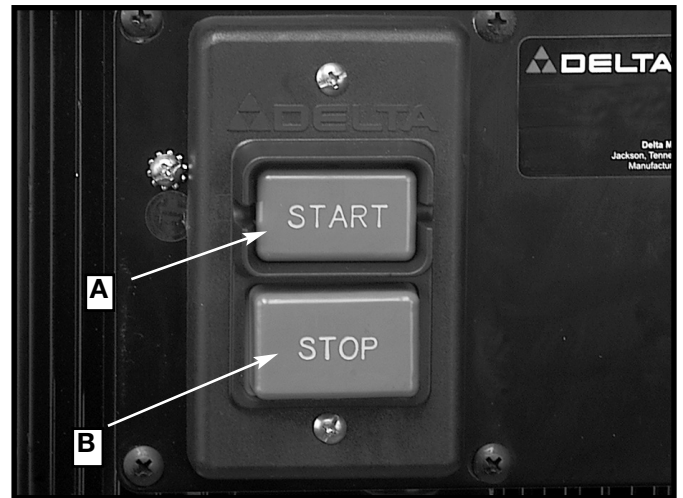

Fig. 14
1. The on/off button (A) Fig. 14 is located on the motor housing. To turn the machine "ON", push the "START" button (A).
2. To turn the machine "OFF", push the "STOP" button (B).